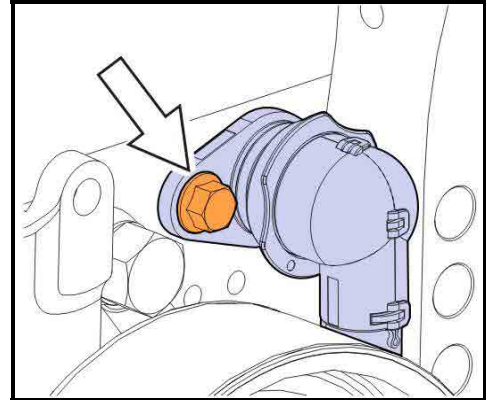

FIGURE 19
10. Install the pass through fastener (fig. 19). Tighten the cap screw to 24 Nm (18 ft-lb).